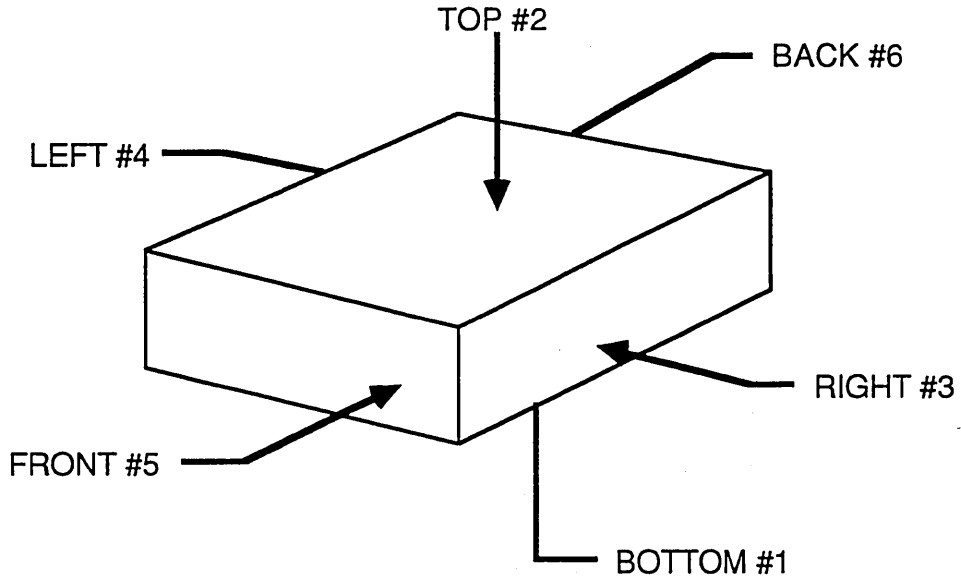

Figure C-1. Vortex carton face identification.
- Each shipping container must be identified on sides #3 and #4 (See Figure C-1) with the following basic information:
The cartons are identified by figure C-1.